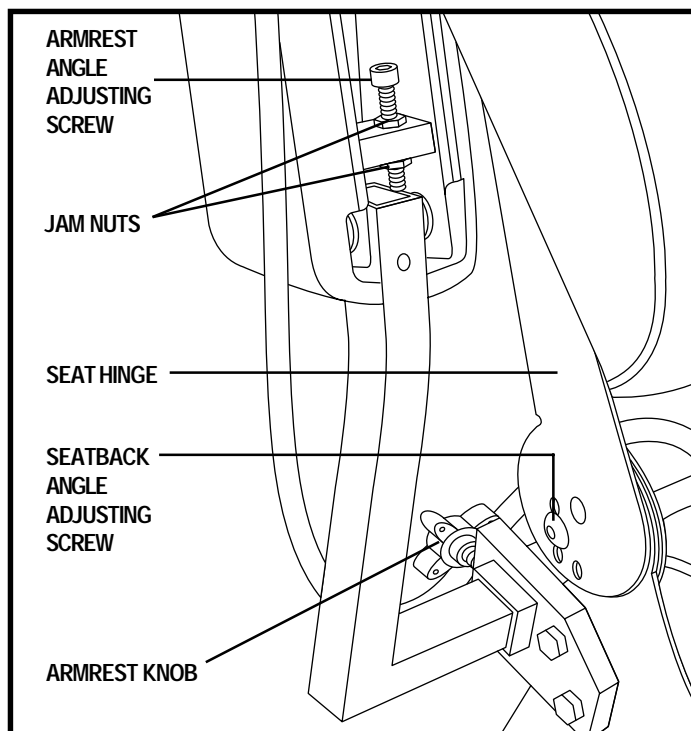

Figure 17. Seatback Angle Adjustment
1. Remove the adjusting screws from each seat hinge. See figure 17.
1. Locate the two armrest knobs on each side of the armrest receiver bracket. See figure 17.
1. Lift the armrest straight up so that it is perpendicular to the floor. See figure 17.